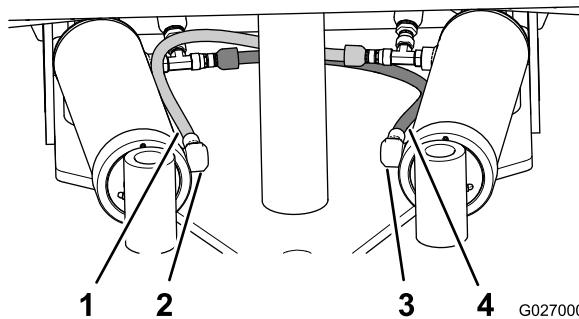

Figure 17
6. Connect the free end of the cross-connect hose (1/4 x 20 inch) from the T-fitting in the left pivot cylinder to the retract port of the right pivot cylinder (Figure 17) and tighten the hose fitting at the port to 31 to 39 N·m (23 to 29 ft·lb).
7. Connect the free end of the hose (1/4 x 20 inch) from the T-fitting in the right pivot cylinder to the retract port of the left pivot cylinder (Figure 17) and tighten the hose fitting at the port to 31 to 39 N·m (23 to 29 ft·lb).